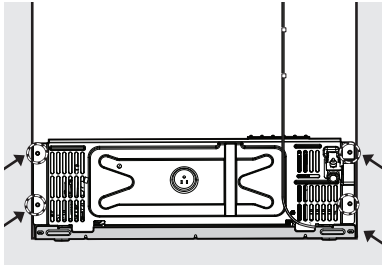

Figure 12
13. Remove the 4 screws securing the access cover to the cabinet. See Figure 12.